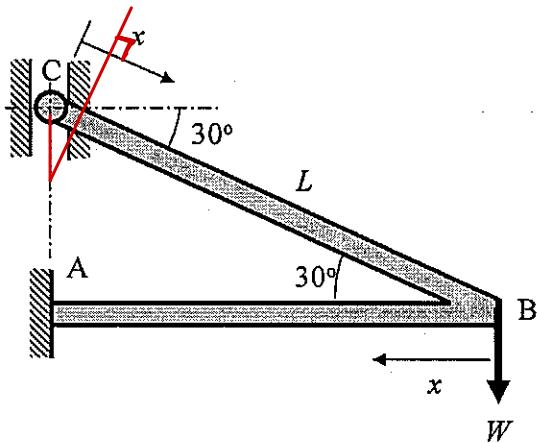

Figure 2
- (b) Figure 2 shows a statically indeterminate weightless beam structure ABC of flexural rigidity EI . The lengths of portion BC and AB are L and $L\cos 30^\circ$, respectively. End A is rigidly fixed to a wall and end C is guided to move vertically. A vertical load W is applied at point B as shown. Consider only bending effects and ignore friction at the vertical guide.